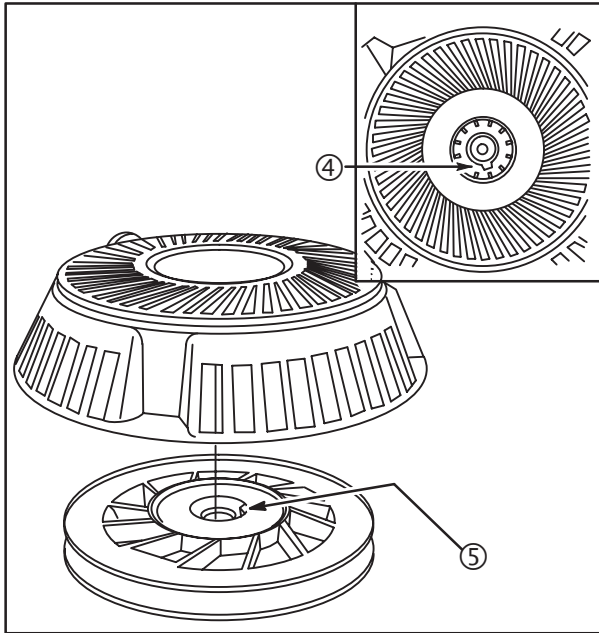

Fig. 70
- Note location of spring tab (5) and location of spring anchor (4) on center post of starter housing.
- Lower starter housing onto pulley and spring assembly, **Fig. 70**.